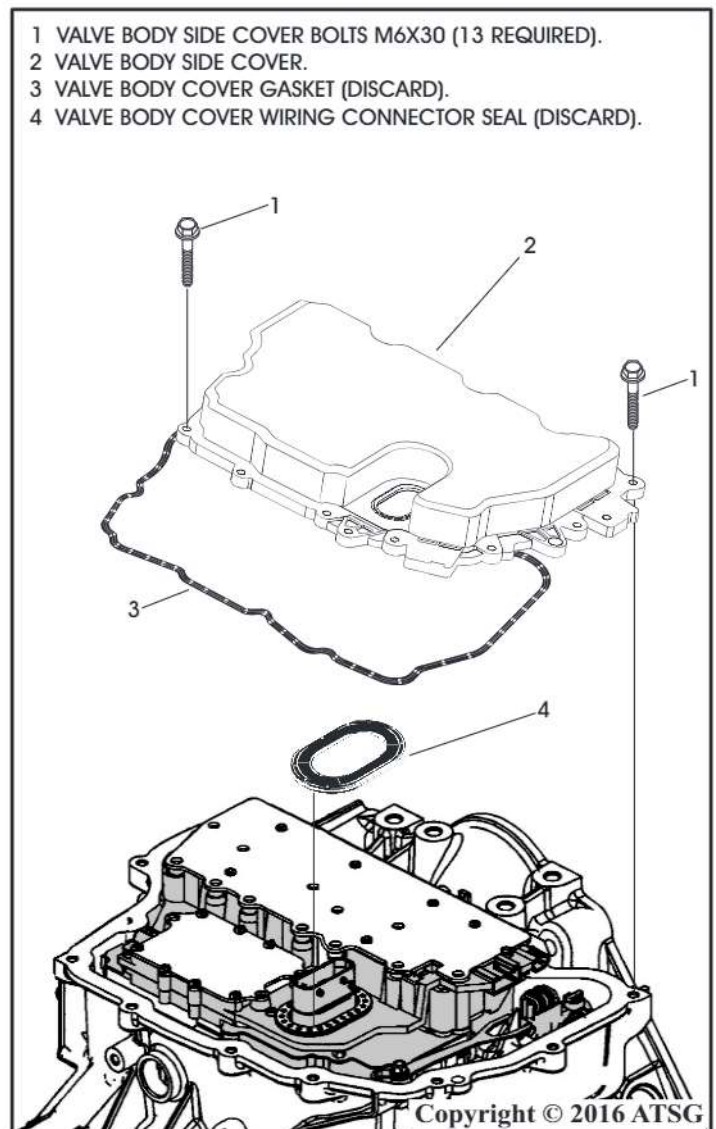

Figure 51
10. Remove the 13 bolts from the valve body side cover as shown in Figure 51.
11. Remove valve body cover as shown in Figure 51.
12. Remove gasket from valve body cover and discard as shown in Figure 51.
13. Remove valve body cover wiring connector seal and discard as shown in Figure 51.